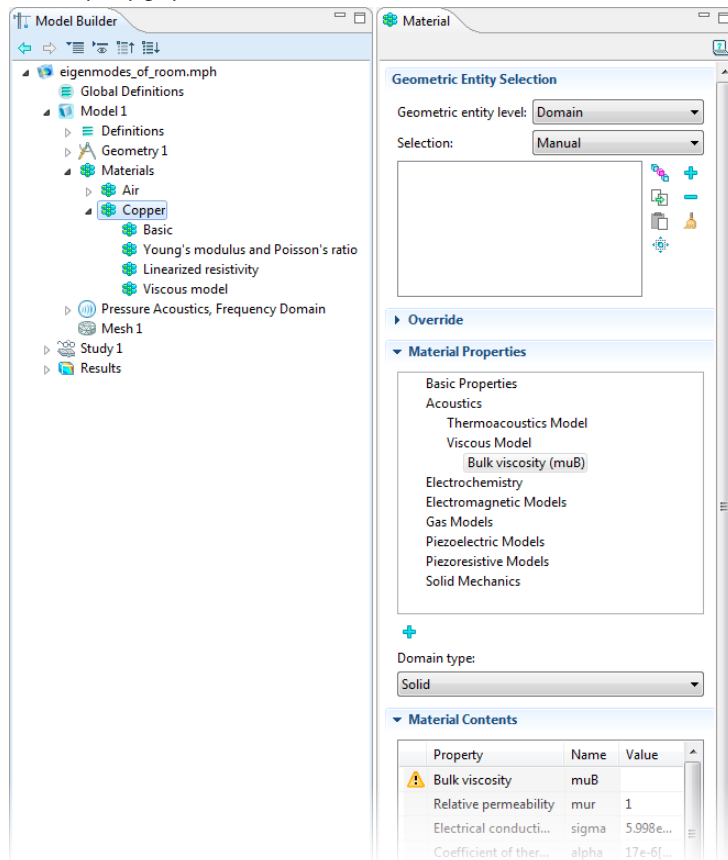

Figure 6-7: Adding a material property to a model. Some properties may require data.
- 3 Browse the **Material Properties** section to locate the property to add to the model. For example, under **Acoustics>Viscous Model** select **Bulk viscosity (muB)** and right-click to **Add to Material** or click the **Add** button (  ). See Figure 6-7. In this example, a **Viscous model** node is added to the **Model Builder**, and its associated properties are added to the **Material Contents** table. Any properties requiring **Values** are highlighted by warning signs (  ) or stop signs (  ) in the left-hand column.